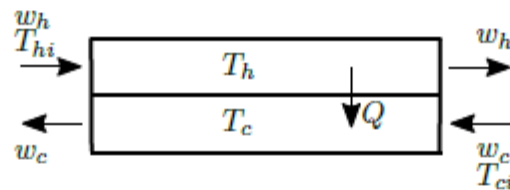

Figure 3: Simple heat exchanger
Consider Figure 3. The the hot and cold mass flow rates  $w_j$ ,  $j = \{h, c\}$  are assumed constant, such that the mass on each side are constant. The inlet temperatures are  $T_{hi}$  on the hot side, and  $T_{ci}$  on the cold side. The heat transfer from hot to cold side is
- (2 %) (c) Make a sketch of the temperature profiles in the hot and cold stream of a counter-flow heat exchanger (in principle like the one shown in Figure 3, where the hot and cold fluid enter on different ends). Draw them both in the same diagram, with position along  $x$ -axis and temperature along  $y$ -axis. Mark  $T_{ci}$  and  $T_{hi}$  in the sketch.
- (2 %) (d) Do the same for a heat exchanger with parallel flows (where the hot and cold fluids enter at the same end, compared to Figure 3 where they enter on opposite ends). Why do you think counter-flow heat exchangers might be a better set-up than a heat exchanger with parallel flows?